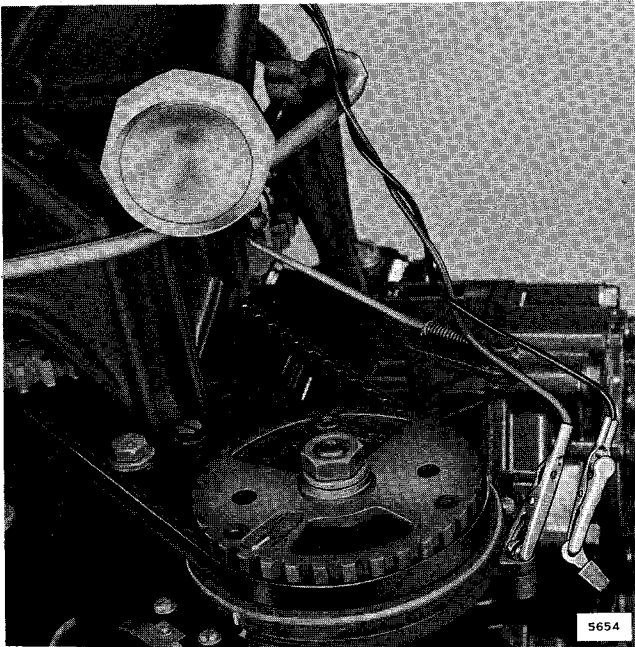

Figure 4-23. Connections for Checking Timing
b. Disconnect breaker point lead from insulated screw terminal and connect it to a meter or test light. Ground meter or test light to the magneto breaker plate. See Figure 4-23.